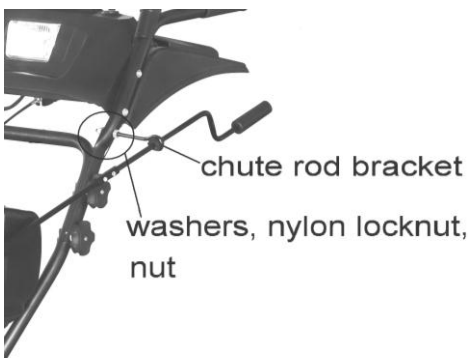

Figure 4
2. Insert the chute rod bracket through the hole on the left upper handle. See figure 4
3. Put the washer removed previously through the chute rod bracket. See figure 4
4. Tighten the nylon locknut removed previously. See figure 4